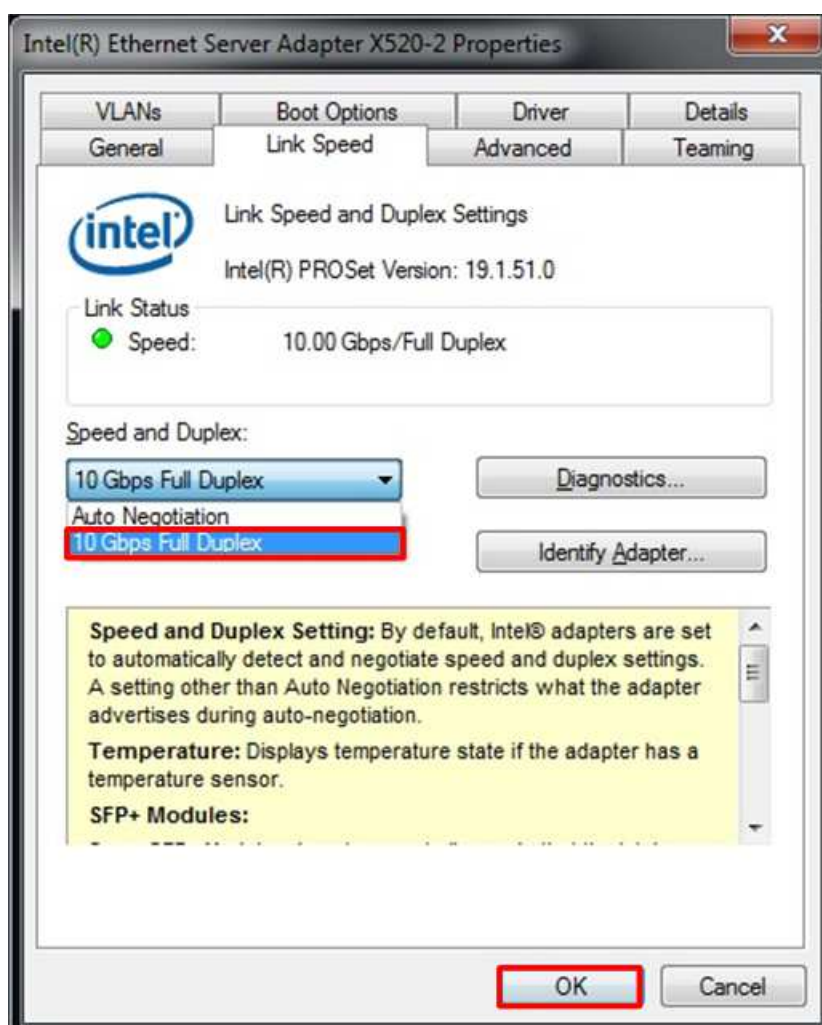

Figure 3-3 Set link speed = 10 Gbps
- 3) On Link Speed, select “10 Gbps Full Duplex” for running 10-Gigabit transfer test, as shown in Figure 3-3.